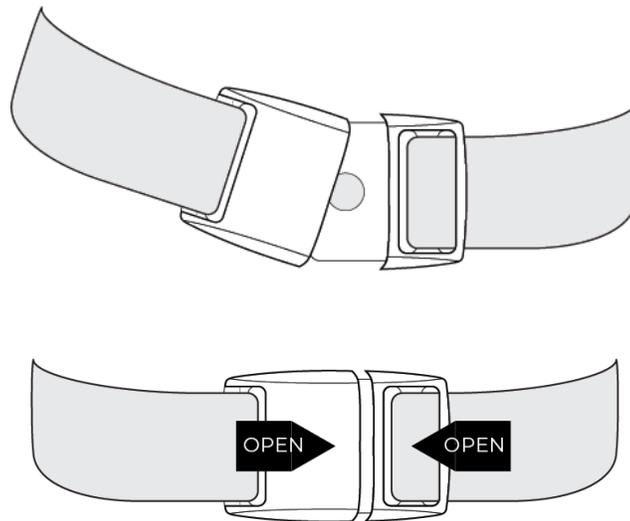

Figure 14. Operation of the thigh strap latches
- The thigh straps are held around users thighs using magnetic latches. The latches snap together when you bring both sides close to each other. To release, push both sides of the buckle toward each other using a sliding motion. (Figure 14)